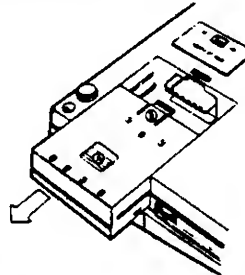

Figure 930-3 Removal of Battery Pack
4. Push down and outward with both thumbs remove the battery compartment, see Figure 930-3.